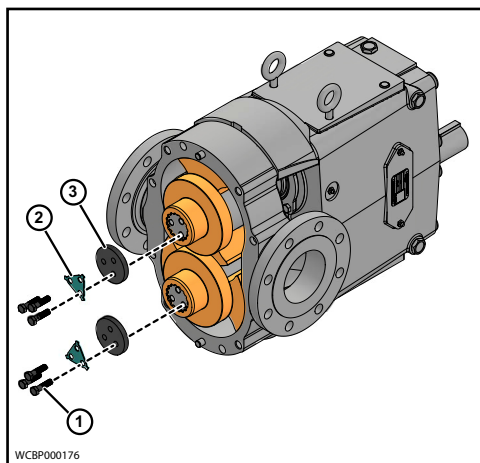

Figure 98 - Install components
- Retainer washers (3)
- Lock clips (2)
- Retainer bolts (1), as shown in Figure 98.